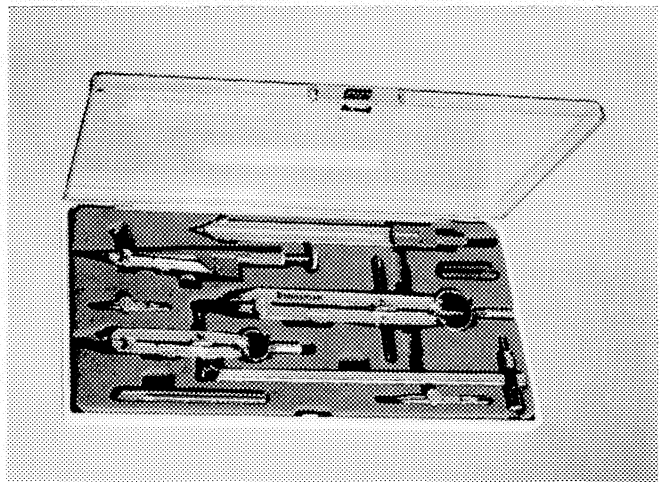
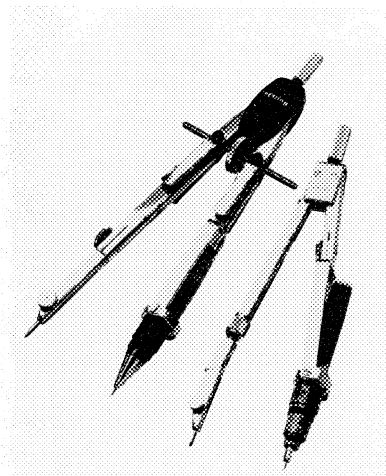

FIGURE 6.39 Drafting Instruments
FIGURE 6.47 Bow Compass with Technical Pen Attachment
**Instruments** include all forms of *compasses*, *dividers*, and *inking tools*. The drafting instrument set (Fig. 6.39) consists of one or two sizes of compass, a divider, and accessories. The compass is used to draw circles and circular arcs. Although many types of drafting sets are available, they normally contain such obsolete items as the ruling pen, which has been replaced by the technical pen. You need only purchase a medium-sized, high-quality bow compass and medium-sized dividers in most cases.
Most compasses have inking-pen or technical-pen attachments. When you purchase a compass set, attempt to find one equipped with an attachment for holding a *technical pen* (Fig. 6.47), not a nib-type ruling pen. Although many drafting sets contain ruling pens (Fig. 6.39), they are not used in industry, so we will limit our discussion to technical pens.